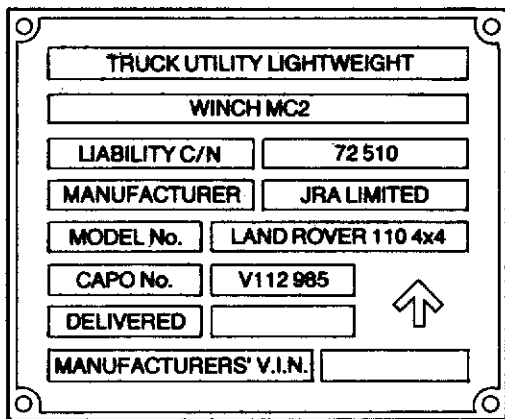

Figure 1-18 Vehicle nomenclature plate
96. Vehicle nomenclature plate (Fig. 1-18)